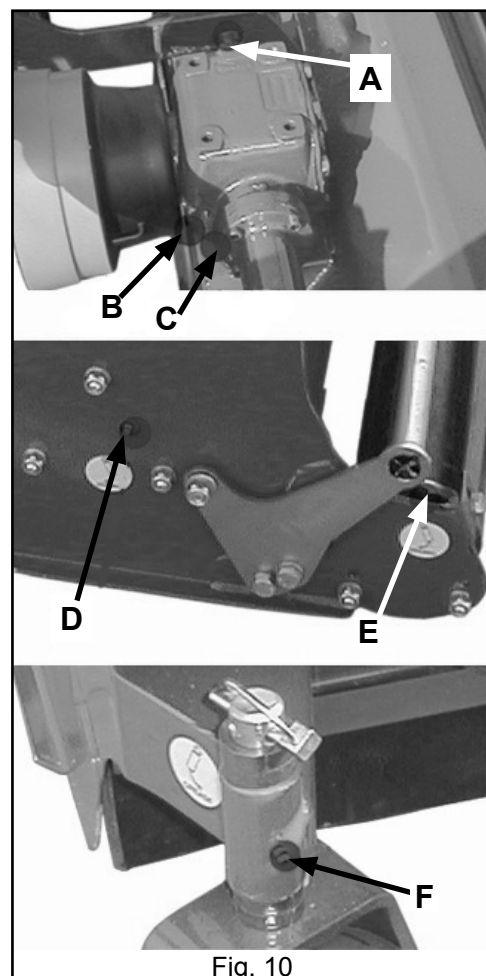

Fig. 10
1. After every 50 working hours, check the oil level of the gear box (point B figure 10) and fill with oil if necessary (point A). Change the oil of the gear box after the first 160 working hours, and subsequently after any 400 working hours; the oil discharge point C is under the gear box. Lubricant type: SAE EP90 gear oil.
2. After every 20 working hours, lubricate the roller supports and the rotor through the lubricant points D/E figure 10 on both the sides of the machine.